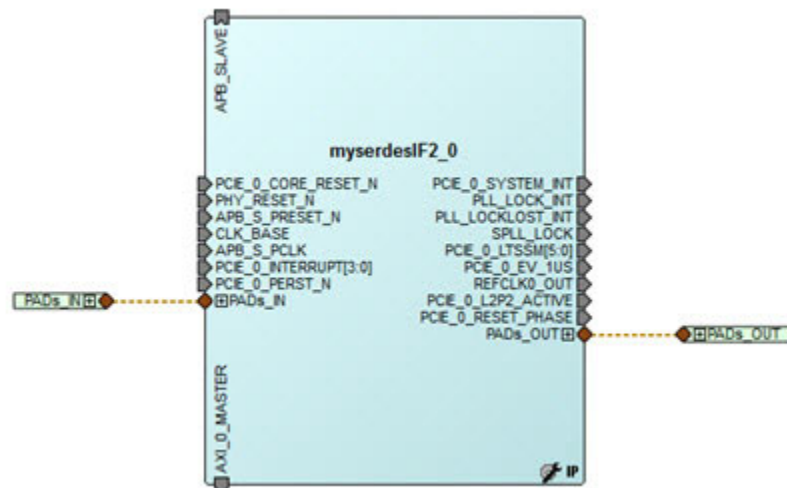
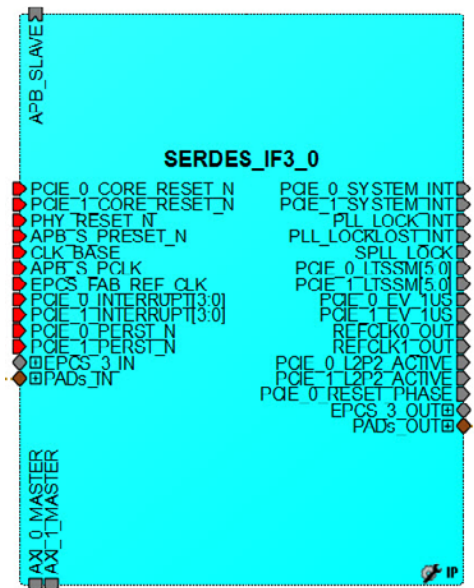

Figure 1 • SERDES IF2 Block Instantiation on the SmartDesign Canvas
Figure 2 • SERDES IF3 Block Instantiation on the Smart Design Canvas
1. Instantiate the High Speed Serial Interface 2 core or the High Speed Serial Interface 3 core from the Catalog into the SmartDesign Canvas, as shown in Figure 1 and Figure 2